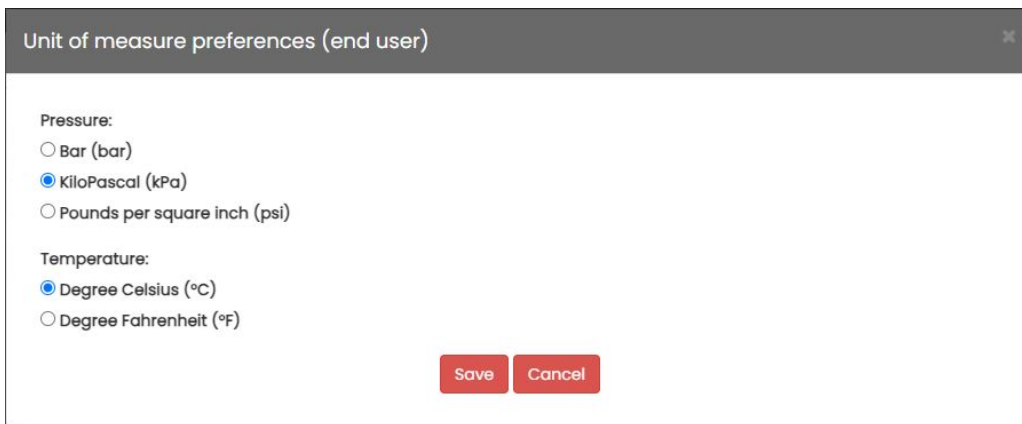

Figure 6.9: Modifica delle unità di misura
By clicking on , you can edit the unit of measure preferences, as shown in Figure 6.9. After making changes, click the "Save" command to save them or "Cancel" to cancel them.
- **Unit of Measure Preferences:** Opens a window to modify the unit of measure preference, as shown in Figure 6.9.